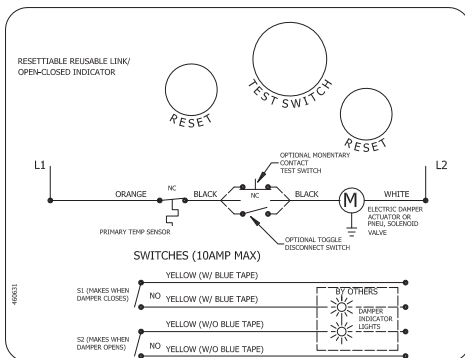

Figure 10: RRL/OCI
**RRL /OCI:** The RRL/OCI performs the function of an RRL and OCI (see description above). Refer to **Figure 10** for wiring of the RRL/OCI option.